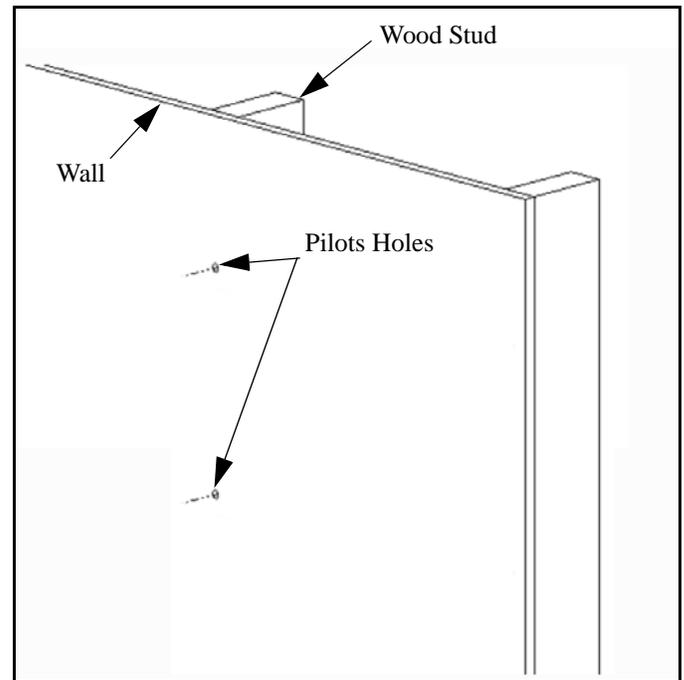

Figure 1: Single Wood Stud
2. Using a stud sensor, locate the wood stud where you will mount the mount (see figure 1).
7. Drill two pilot holes where the mounting holes were marked for anchoring the mount (see figure 1).